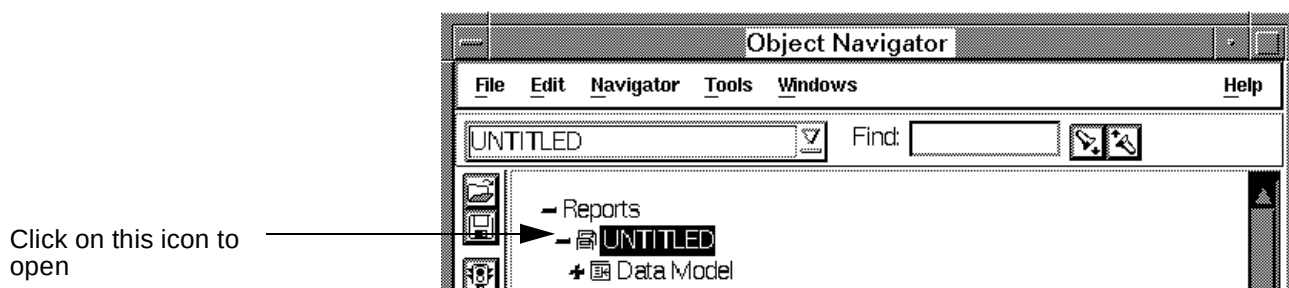

Figure 3-3. Report Icon
2. Double-click on the icon next to the report name, Figure 3-3.